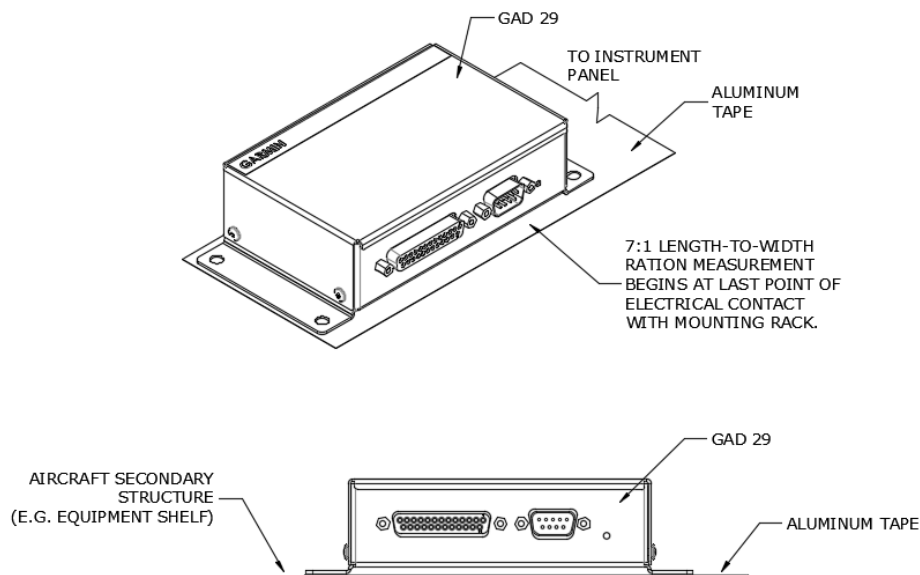

Figure 4-62 GAD 29/29B/29D Aluminum Tape Installation (GAD 13 similar)
15. Secure the aluminum tape to the GAD 29/29B/29D, GAD 13, or mounting rack as shown in Figure 4-62.